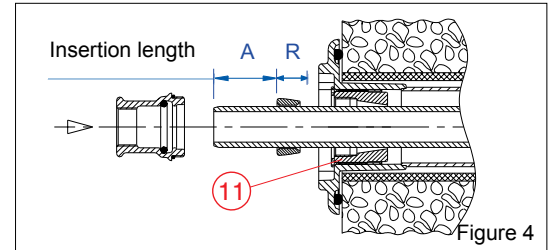

Figure 4
- i) To assemble the fitting (Fig. 4), first turn in the thread adapter (11) (Order No. 683AW) and slide on the grip ring. Note the insertion length A of the pipe end!